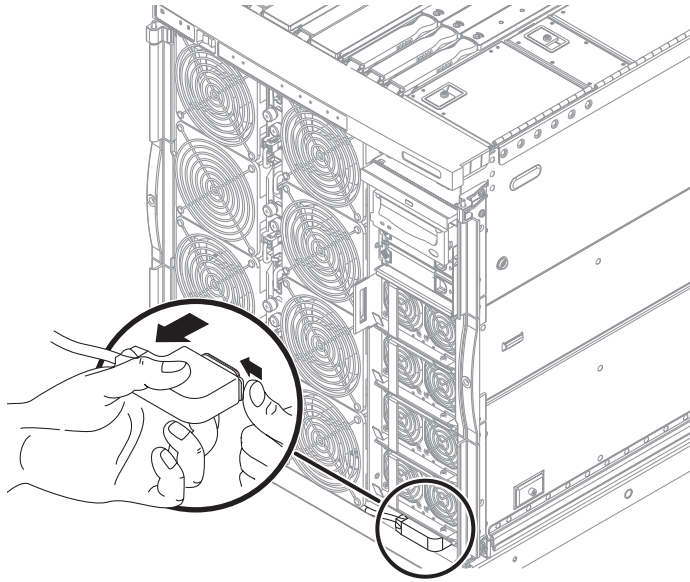

FIGURE 6-5 Removing the Fan Tray Power Connector
5. Unlatch and disconnect the fan tray power connector (FIGURE 6-5).
6. Connect the fan tray power connector (FIGURE 6-5).